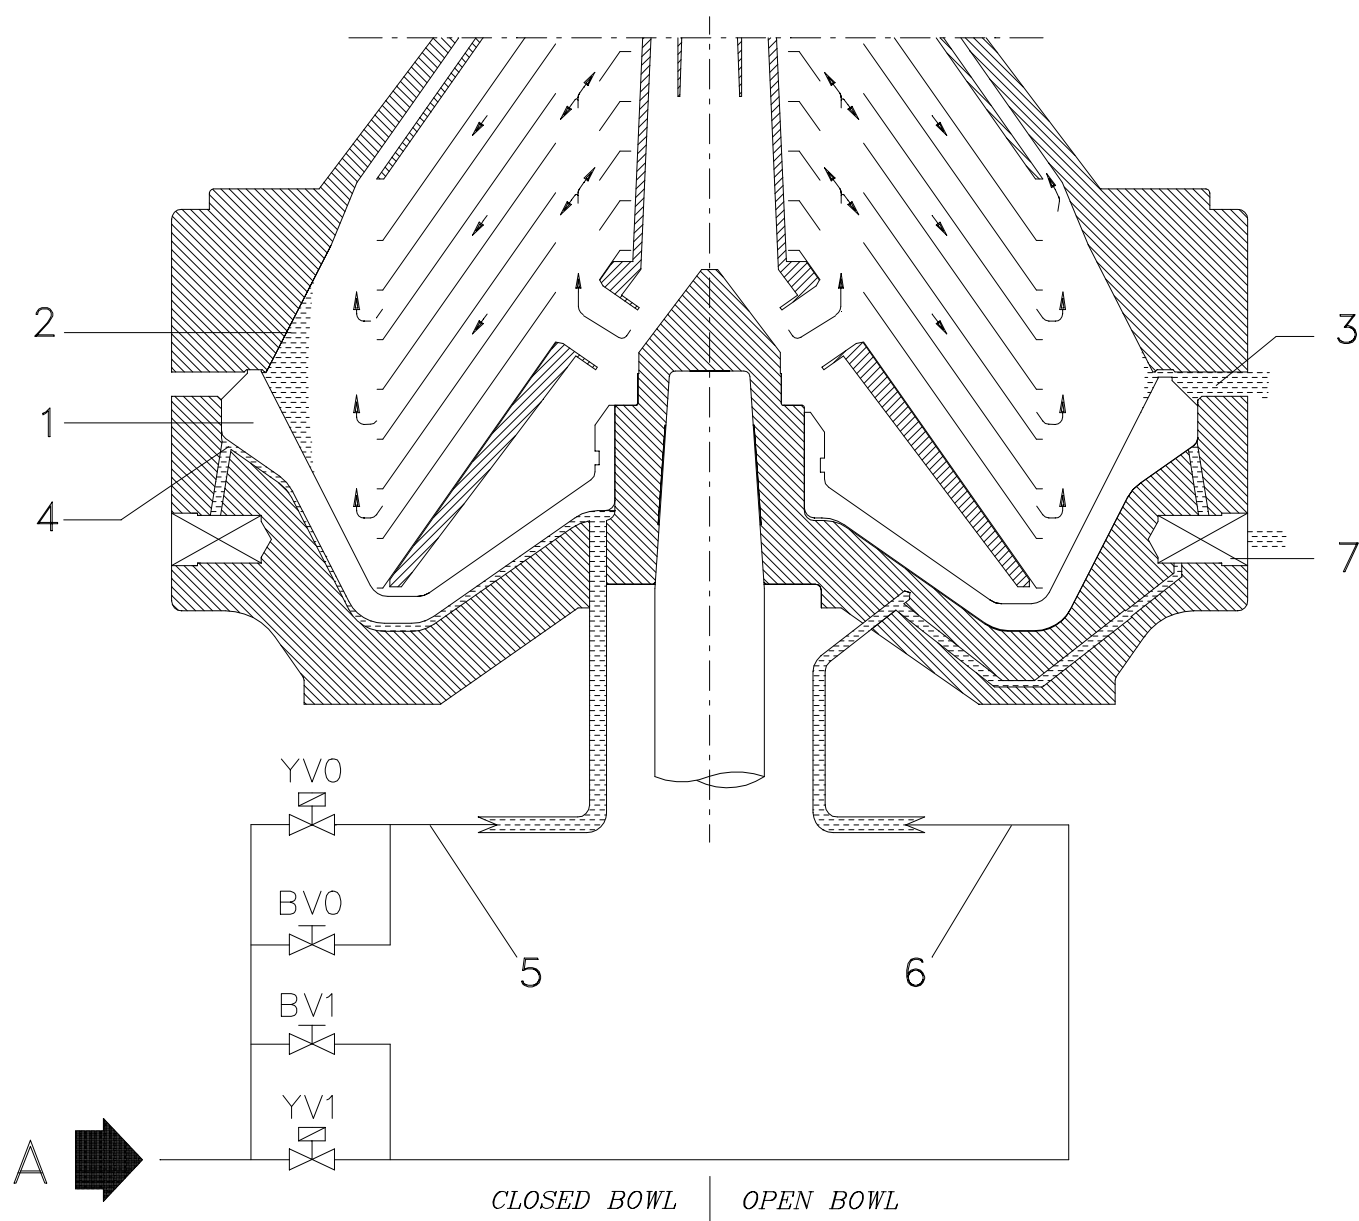

Figure 6.33
The bowl (Fig. 6.33) is provided with a ram (1) which periodically opens discharge holes (3) on the periphery of bowl, draining off the solids (2) accumulated during the separation. This ram is driven downward by the pressure of processed product and upward by operating water. When chamber (4) is filled with water, the ram is in closed position (up); when chamber is partly empty, the ram goes to position of opening (down). The filling and emptying of chamber (4) is obtained through two water pipes intercepted by solenoid valves:
- pipe (5) (solenoid valve YV0) for closing water, through which water fills up moving ram chamber (4);
- pipe (6) (solenoid valve YV1) for opening water, through which the partial emptying of chamber (4) takes place. Opening water acts on bowl valve (7) causing the opening of drain hole of chamber (4).